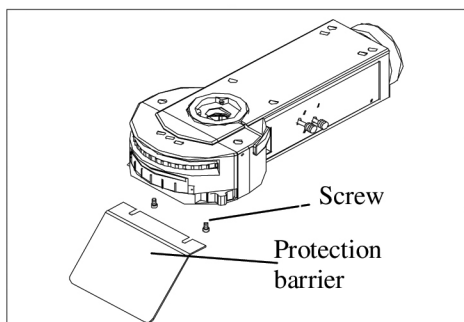

Fig. 3
Mount a filter cube (8) (Fig. 3) into the top of the model block and tighten the screw (10). Beside the screw, you can see a number on the turret indicating G-excitation. To help identify mirror blocks, place a label below the corresponding number on the front side of the mirror turret. Repeat procedure to mount other blocks.
Mounting Protection Barrier (Fig. 3)